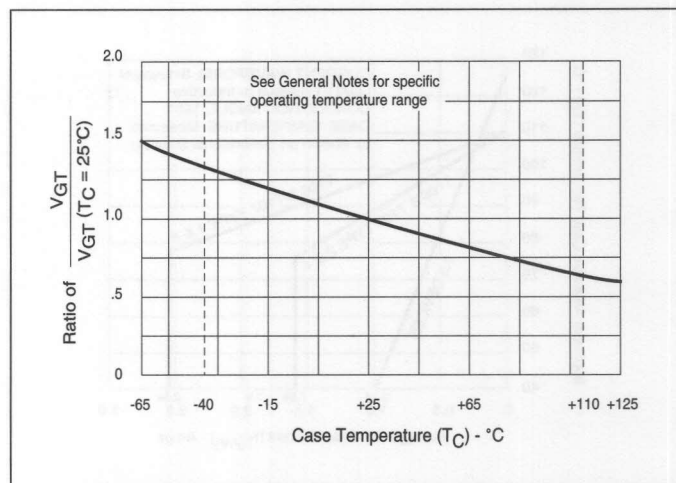

Figure 5.12 Normalized DC Gate-Trigger Voltage vs Case Temperature
- See Figure 5.12 for V_{GT} vs T_C .